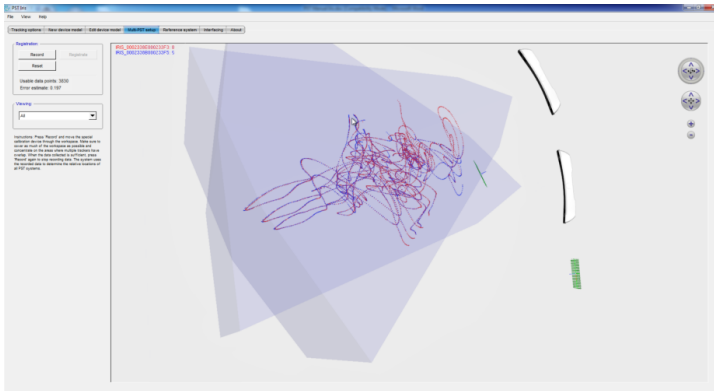

Figure 7.16: Registration results
4. Press the “Registrate” button to execute the registration procedure. This can take from a few seconds to a couple of minutes, depending on the number of the points collected during the registration procedure. Upon completion, the registration results are shown in the live view. The recorded point trajectories should be placed on top of each other (as illustrated in Figure 7.16), where the error estimate indicates the quality of the registration. An error below 0.5 can generally be considered a good value.